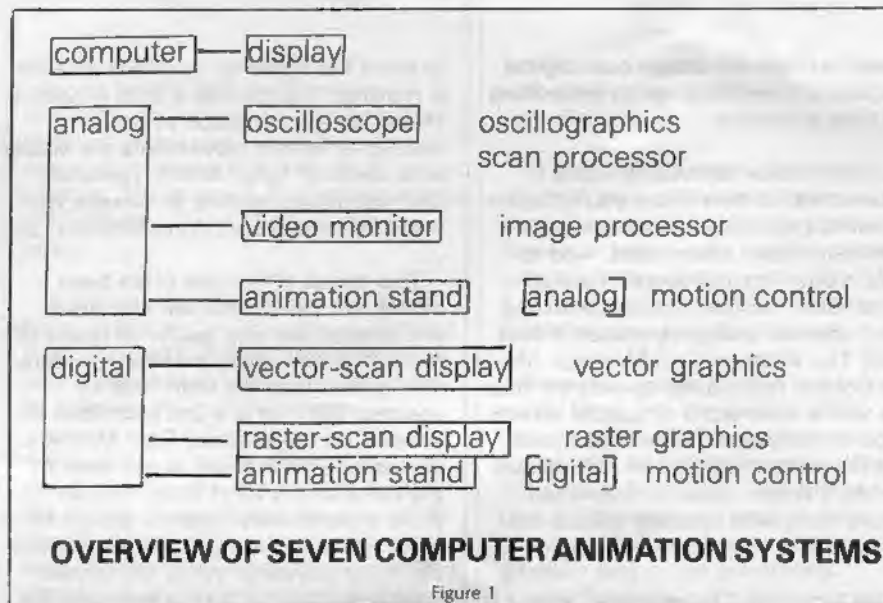

Figure 1
In this article we will discuss seven generic systems as illustrated in Figure 1.
If the scanning pattern is modified, then the result is no longer a standard video signal. (So, it can't be fed directly to a TV or tape recorder.) The results appear on an oscilloscope-like display and so scan processors belong with oscillographics on our chart (Figure 1). And just like oscillographics, to be recorded the screen must be filmed or rescanned with a video camera.
- 2) slight movements of the stand between exposures to animate pans and zooms. These stand movements can be automated and controlled with computers, and since these movements alone can create animation, the animation stand can be considered a drawing device. (see Figure 1) This technique is called Motion Control.
What distinguishes the digital animation systems on our chart in Figure 1 is the type of display. We'll consider three different kinds (vector, raster, and animation stands), but they're not mutually exclusive; a single system can include more than one type of display.